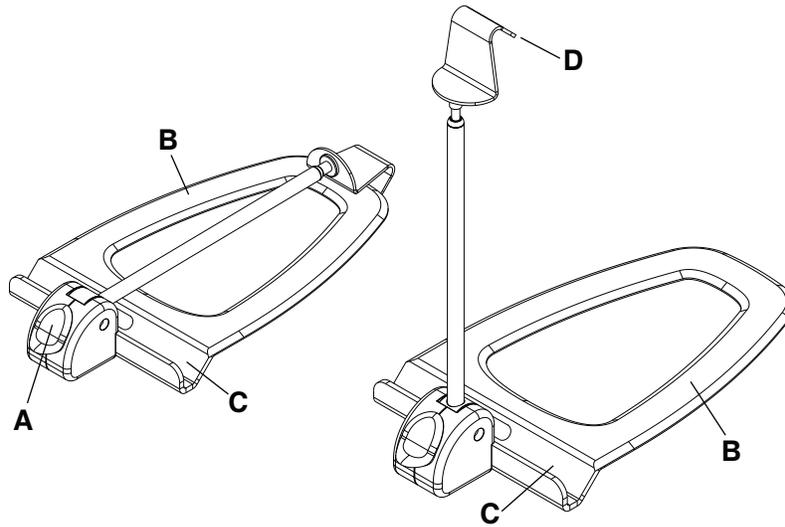

Figure 34 – Lateral X-ray cassette holder
2. Press down on the yellow release button (A) to open the lateral cassette holder (Figure 34).
3. Slide the flat base (B) between the mattress and the patient platform.
5. Place the X-ray cassette in the cassette canal (C).
6. Pull up on the cassette hook (D) to adjust the height of the arm to fit over the X-ray cassette to hold the cassette in place.